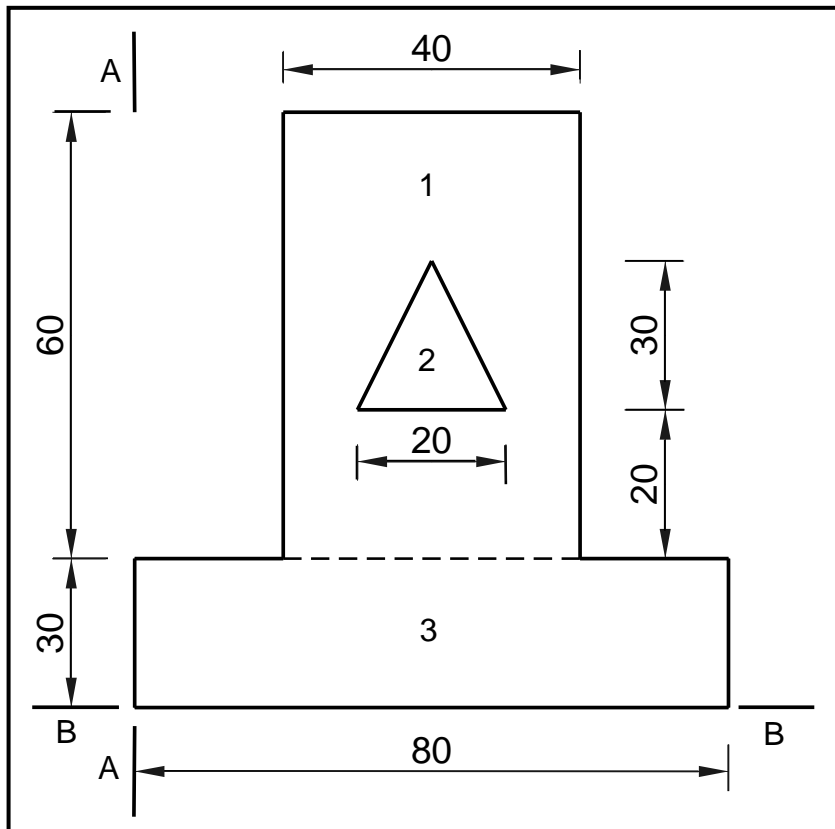

FIGURE 5.1
- 5.1 FIGURE 5.1 below shows a shaped lamina with an isosceles triangular hole. All dimensions are in millimetres. Study the lamina and answer the questions that follow.
- 5.1.8 Deduce, from FIGURE 5.1, the position of the centroid of the whole lamina from A–A. (1)